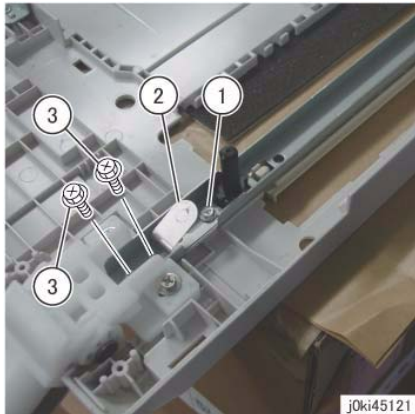

Figure 1 Remove the screws and Ground Plate
8. Remove the screws that secure the Tie Plate. (Figure 1)